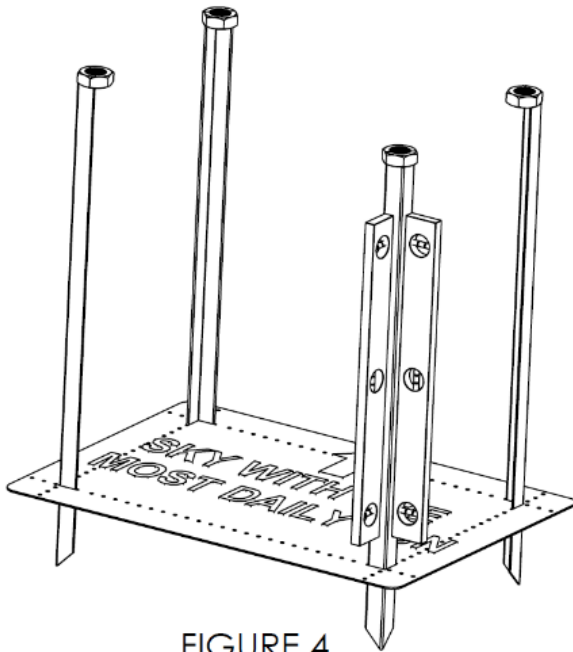
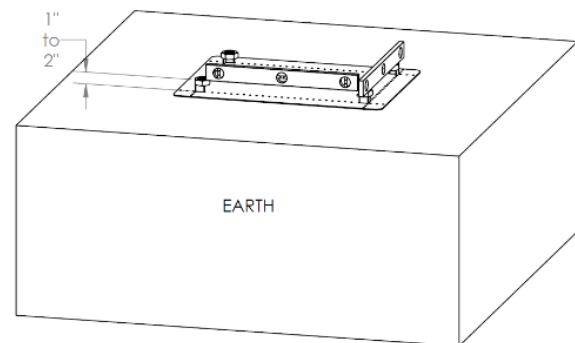

FIGURE 4
FIGURE 6
Insert all 4 of the ground anchors into the slots in the ground anchor template, driving them into approximately 6 inches. Using a spirit level, ensure the stakes are plumb (vertical) in all directions (FIGURE 4)
3. Repeat steps in Figure 4 & 5 with the other three ground anchors. Use a spirit level to ensure the tops of all ground anchors are level with one another. **(FIGURE 6)**. Remove the ground anchor template by breaking it away along the perforation holes.